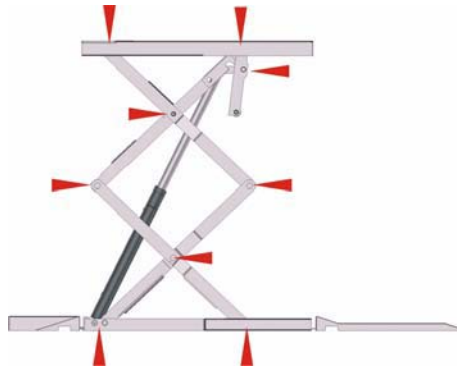

Fig. 9-1 Bearing locations on the machine
► Perform a visual check for wear (*Fig. 9-1, page 33*).